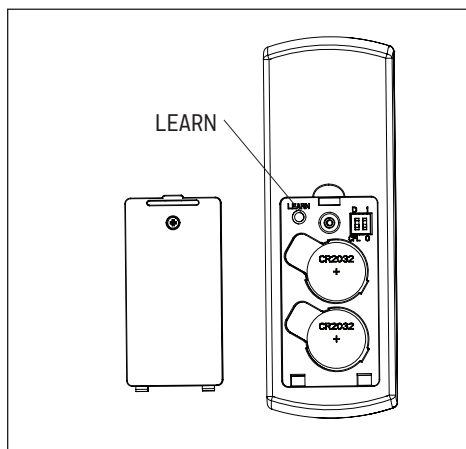

Figure 6.1
1. **LEARN** - Syncs remote to receiver (see TROUBLESHOOTING for instructions). **Note:** To access LEARN button, remove battery door from back of the remote using a Phillips-head screwdriver (Figure 6.1).
Remote does not work.	<ol style="list-style-type: none"> 1. Power surge may have cleared the memory and remote needs to be resynced to the receiver. Syncing instructions: Turn off the power at the breaker box for at least 10 seconds and then turn the power back on. Within 30 seconds, press and hold the "LEARN" button (Figure 6.1) on the back of the remote for 5 seconds. The fan will turn on at high speed and light will blink twice and stay on, signaling a successful synchronization. 2. Insert new CR2032 batteries in battery compartment of the wall control. 3. If there are several remote fans in proximity, turn the power off to those fans and re-sync the fan.